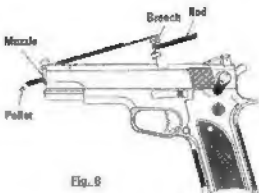

Fig. 8
- Push the pellet out the muzzle of the air pistol from the breech. (Fig. 8)
- Push the jammed pellet out of the muzzle end of the air pistol from the breech as shown in Fig. 8.